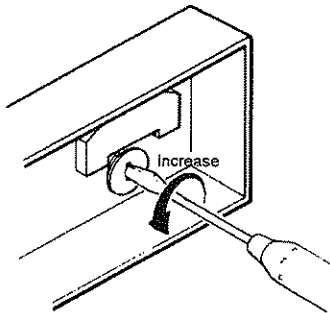

Figure 4 — Thermometer Calibration
4. Insert a small screwdriver in the thermometer shaft (Figure 4) and turn it until the thermometers read the same. When the thermometer is calibrated, replace cover and place system into operation.